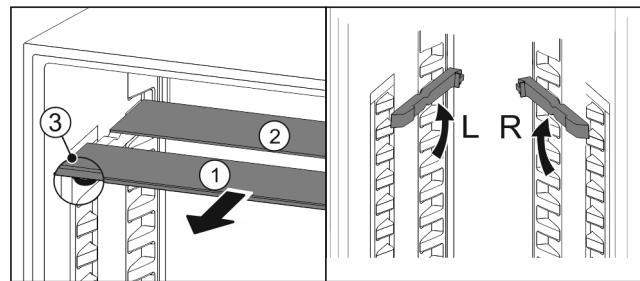

Fig. 74
- Pull the glass panels out Fig. 74 (1) from the front, one at a time.
- The glass panel Fig. 74 (1) and trim strip are at the front.
- The stops Fig. 74 (3) point down.